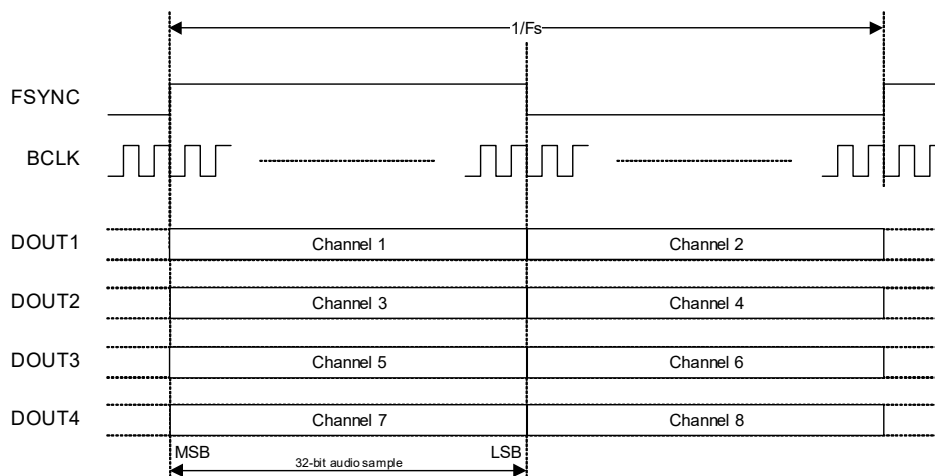

Figure 4-14. Left-Justified Data Format
- If Left-Justified data format is selected, the ASP supports audio channels 1–8 as shown in Fig. 4-14. The minimum BCLK rate is 64 fs (where fs is the sample rate). A higher BCLK frequency can be used, resulting in unused BCLK cycles between the LSB of one sample and the MSB of the next.